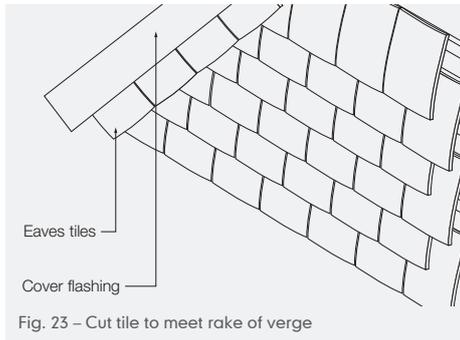

Fig. 23 – Cut tile to meet rake of verge
- 4 A cover flashing can be used to cover the soldier course tile nail holes and to the apex (Fig. 23).